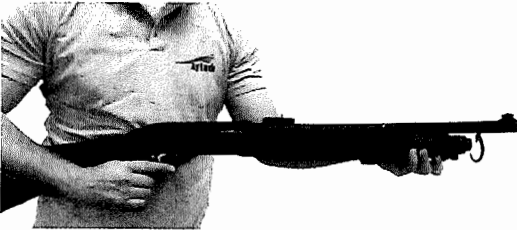

Fig. 11
6. Unscrew the magazine cap by turning it counter-clockwise. (Fig. 11)